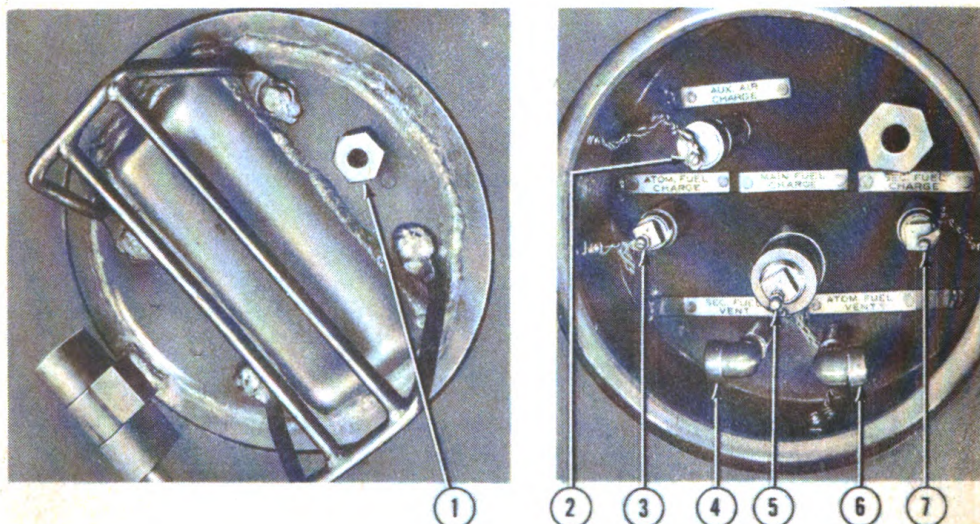
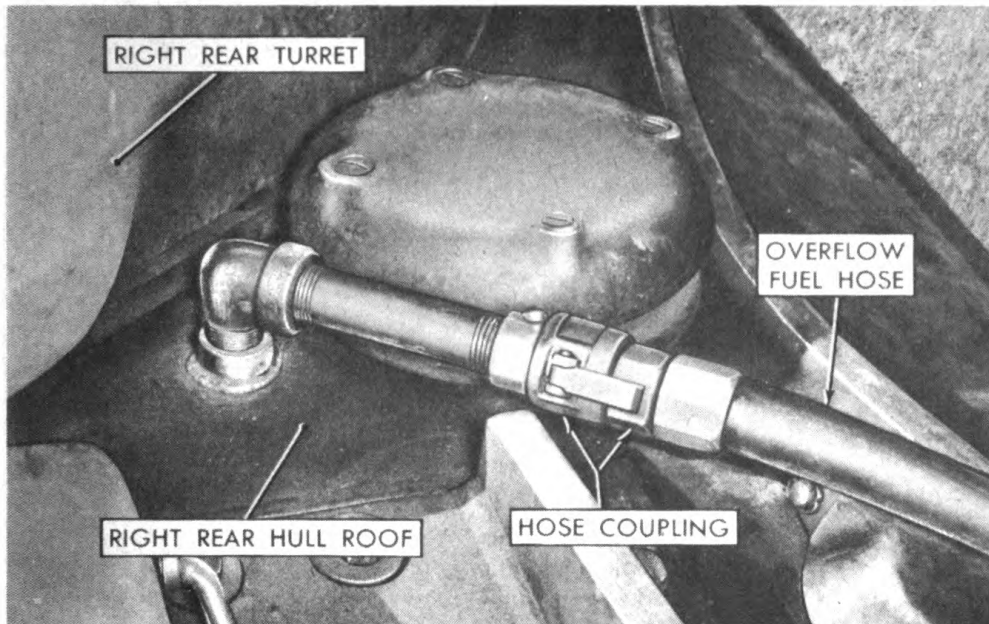

Figure 24—Filling and charging connections, and vents, in protected well on turret roof.
Figure 25—Overflow fuel hose connected to main fuel vent line.
d. Connect servicing hoses (fig. 24) and overflow fuel hose (fig. 25) to flame thrower. Fill main, secondary, and atomizer fuel containers (pars. 79, 80, and 81), and charge hull and turret pressure containers (par. 82).
Legend for Figure 24